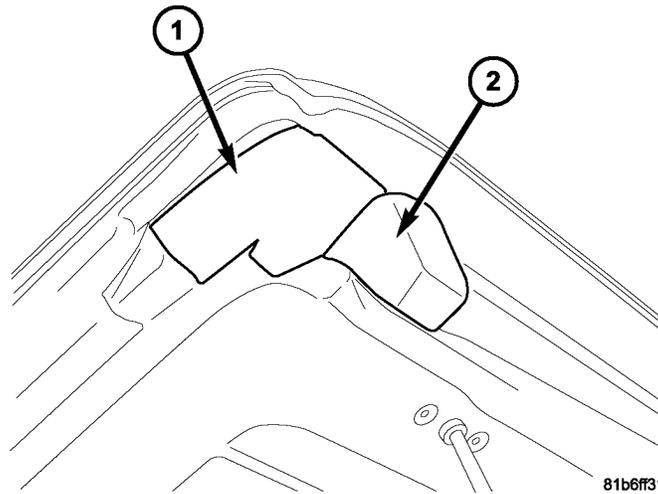

Fig. 7 FRONT CORNER OF FREEDOM PANEL
8. Examine the front outboard corners of Freedom Panel for damaged or missing foam, (Fig. 7). Replace if required with foam in kit p/n 68026937AA.